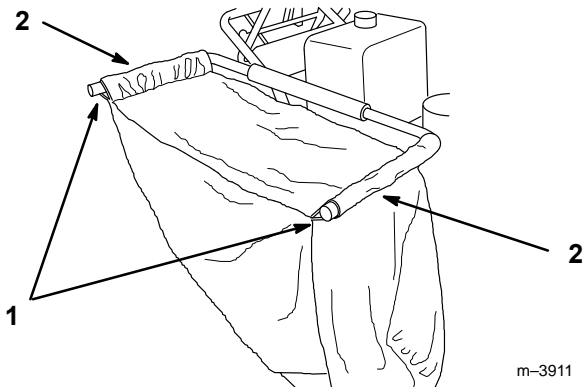

Figure 6
2. Slide bag seams onto frame tubes so bag opening is positioned to front of mower (Fig. 6).